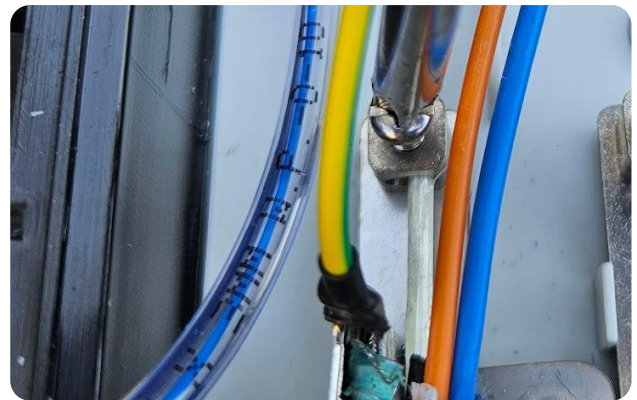

Fig. 7b
- Tighten using a phillips head screw driver as shown in Fig. 7b.